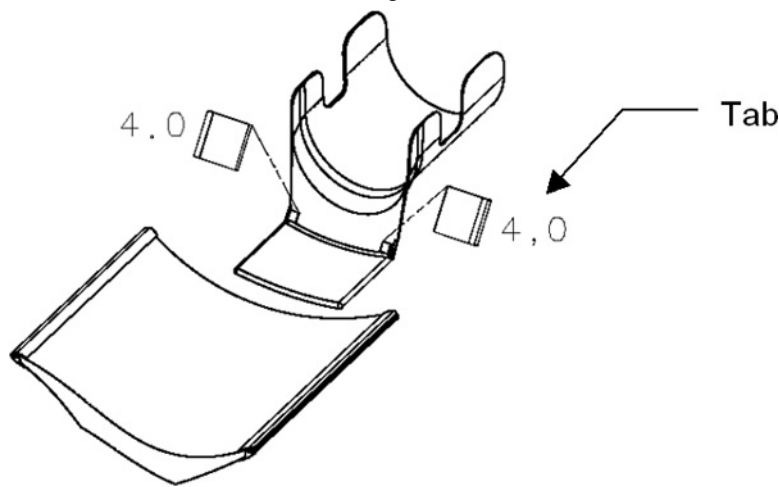

Figure 3-8 Attaching the shims
- 1.) Place the two 4.0 shims (thickest size—the thickness is printed on the shim) onto both edges of the head holder as shown in Figure 3-8. (Use a piece of tape to secure them temporarily.)